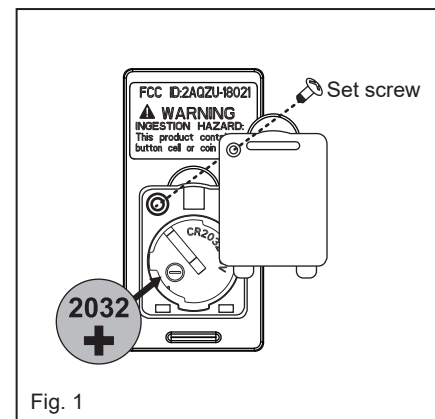

Fig. 1
- 1 Select a desired location. Use the wall plate to mark the location of the mounting holes. Plastic wall anchors or mounting screws are needed for this application. (Fig. 1)
Remove the panel from the transmitter and then install one 2032 battery (included). You need to use a screwdriver to open or close the battery cover. To prevent damage to transmitter, remove the battery if not use for long periods of time (Fig. 1)